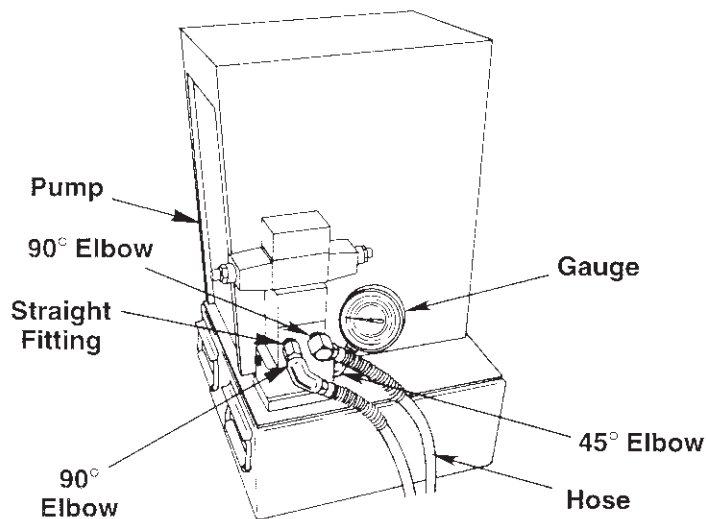
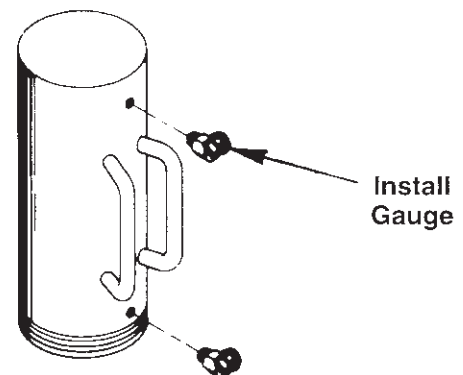

Figure 1
Figure 2
5. The gauge can be mounted to the pump's gauge port with a 45° elbow as shown in Fig. 1. The gauge can also be mounted at the ram by using a tee adapter between the swivel fitting and hose. If you are using a double-acting ram, install the gauge in the top swivel fitting. (See Fig. 2.) In either case, install a pipe plug in the pump's gauge port.